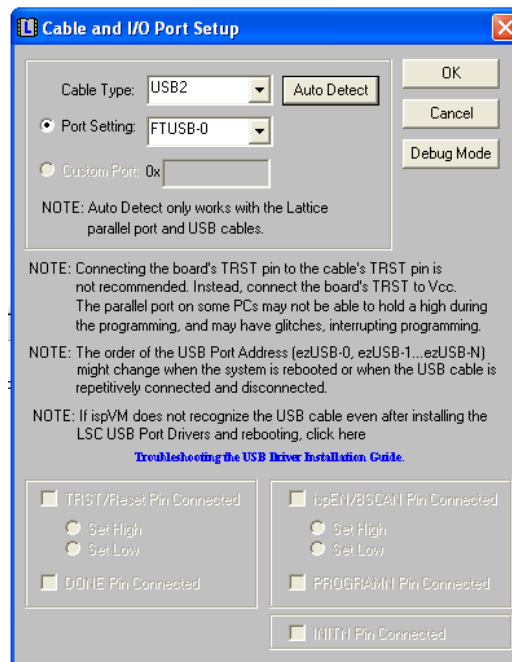

Figure 2. USB cable setup.
2. Click the *Options* → *Cable and I/O port setup* option. Select cable type as *USB2* and then press *Autodetect* button. If the autodetection is successful, Figure 2 will be displayed.